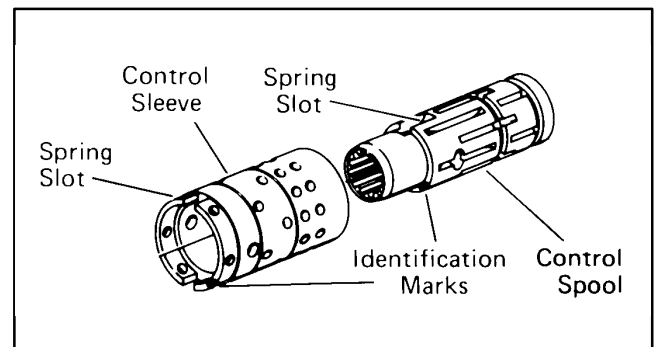

Figure 38
5. Assemble spool and sleeve carefully so that the spring slots line up at the same end. Rotate spool while sliding parts together. Some spool and sleeve sets have identification marks, align these marks as shown in Fig. 38. Test for free rotation. Spool should rotate smoothly in sleeve with finger tip force applied at splined end.